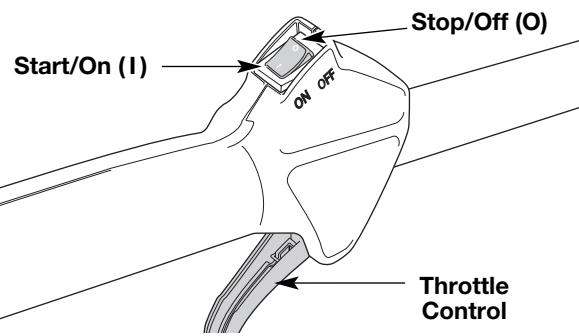

Fig. 9
- NOTE:** There is no need to turn the unit on. The On/Off Stop Control is in the ON (I) position at all times (Fig. 9).
2. Press and hold On/Off Stop Control in the OFF (O) position until engine comes to a complete stop (Fig. 9).